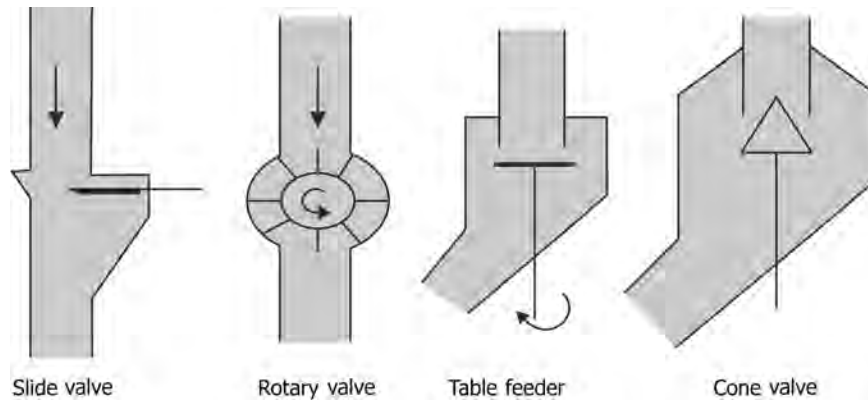

FIGURE 3.16 Different types of valves for solids flow.
- Typical solids flow valves are shown in Figure 3.16.